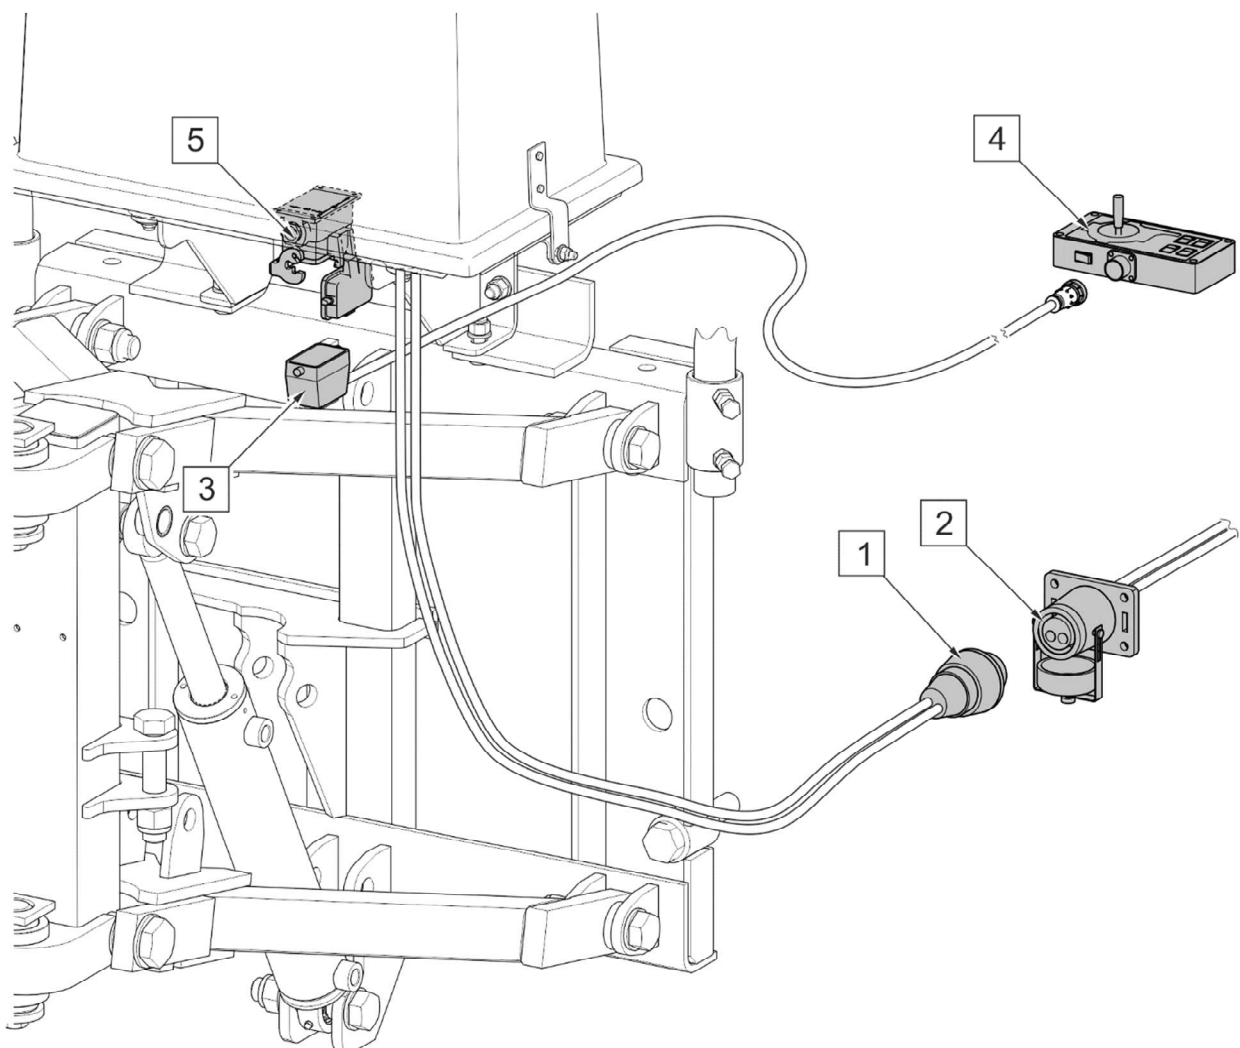
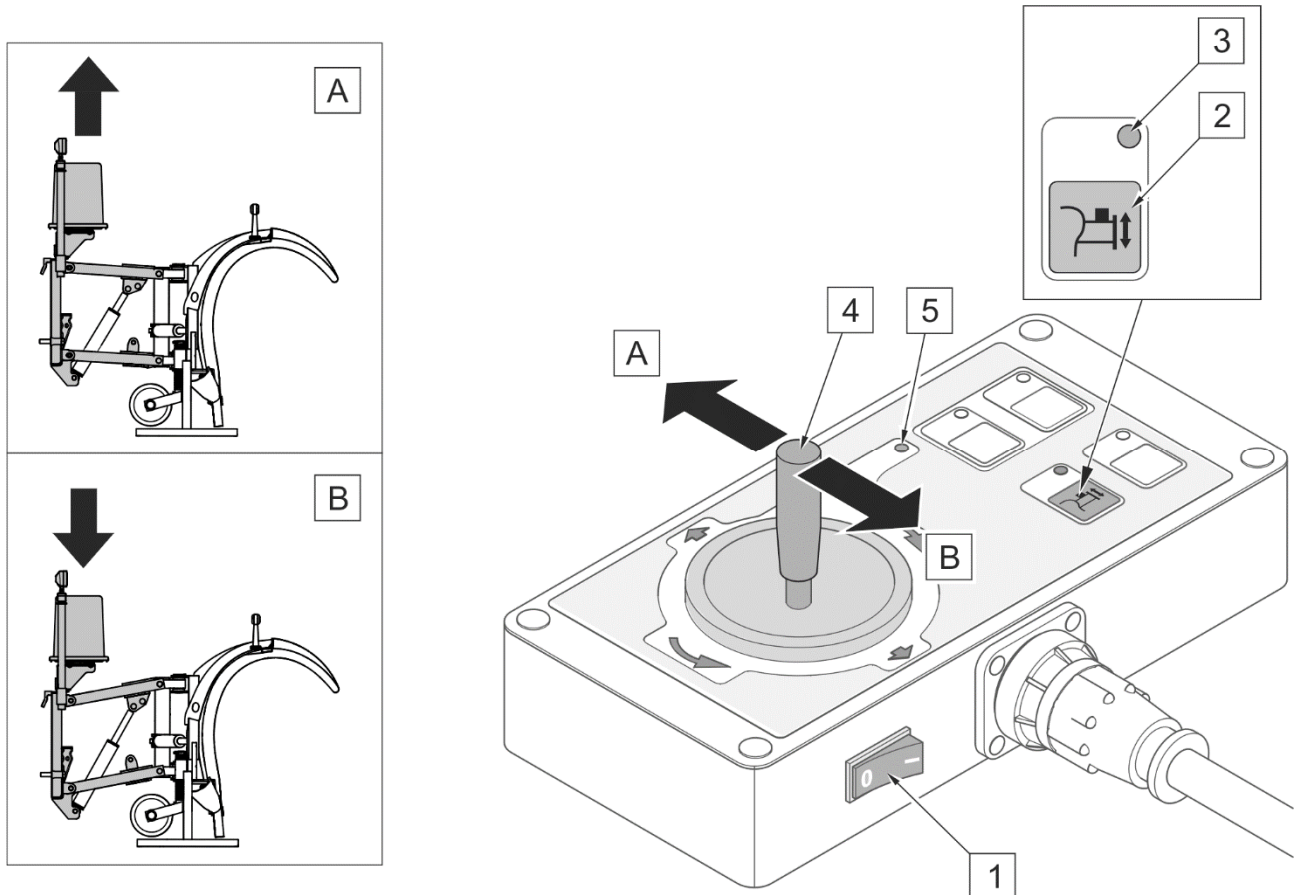
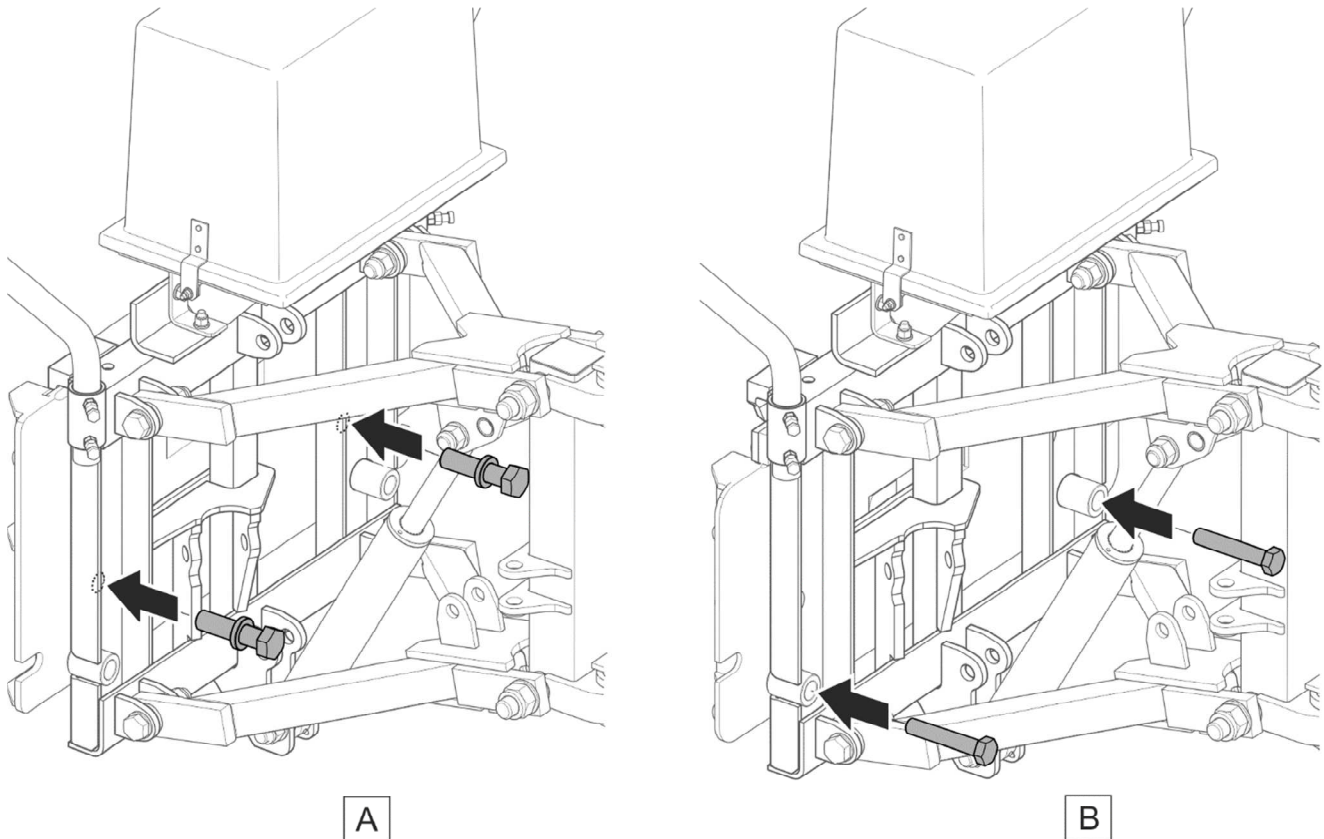

FIGURE 4.4 Connecting the electrical system
FIGURE 4.5 Linking the plough
FIGURE 4.6 Protection of the linkage plate
- 1) Drive the carrying vehicle to a distance of about 30 cm from the snowplough linkage and immobilise the vehicle. Connect Power-Pack electric power supply and control panel (FIGURE 4.4). Start the control panel using switch (1) and activate the linking function using push-button (2) (FIGURE 4.5) – yellow indicator light (3) located next to the push-button will light up.
- 2) Using the joystick (4) on the control panel (FIGURE 4.5), raise the snowplough linkage in such a manner as to position the hooks of the snowplough linkage plate above the seats of the carrying vehicle' mounting plate.
- 4) If the hooks and the carrying vehicle's mounting plate are correctly aligned, lower the snowplough's linkage using joystick until the hooks are set in the seats of the carrying vehicle's mounting plate. Deactivate "linking" function using push-button (2) (FIGURE 4.5) – yellow indicator light (3) located next to the push-button will go out. Secure the mounting plate and the snowplough linkage against disconnecting (FIGURE 4.6).
(1) - power lead plug; (2) - high current socket; (3) - control lead plug; (4) - control panel;
Depending on voltage in carrying vehicle electrical system, the snowplough can be equipped with 12V or 24V electrical system. Connect power lead plug (1) of Power-Pack unit to high current socket (2) in the carrying vehicle (FIGURE 4.4). Control lead plug (3)
(1) - main switch of control panel; (2) - linking function switch; (3) - linking function ON indicator light; (4) - joystick; (5) - Power-Pack ON indicator light; (A) - linkage rising; (B) - linkage lowering
Linking function is used during mounting and disconnecting the snowplough from the carrying vehicle. Linking function is activated using switch (2) on the control panel (FIGURE 4.5). When the linking function is activated, yellow indicator light (2) lights up. In this mode, if joystick (4) is set in position (A), the linkage is raised and if joystick is set in position (B), the snowplough linkage is lowered. When the linking function is deactivated using switch (2), yellow indicator light (3) will go out.
Activation of the linking function (FIGURE 4.5) causes deactivation of the floating function (FIGURE 4.6) (if it was activated before).
After mounting the snowplough on the carrying vehicle, connect the snowplough linkage to the carrying vehicle's head plate using bolts (FIGURE 4.6)
Depending on type of the carrying vehicle's head plate (FIGURE 4.6), tighten the securing bolts using the following tightening torques: